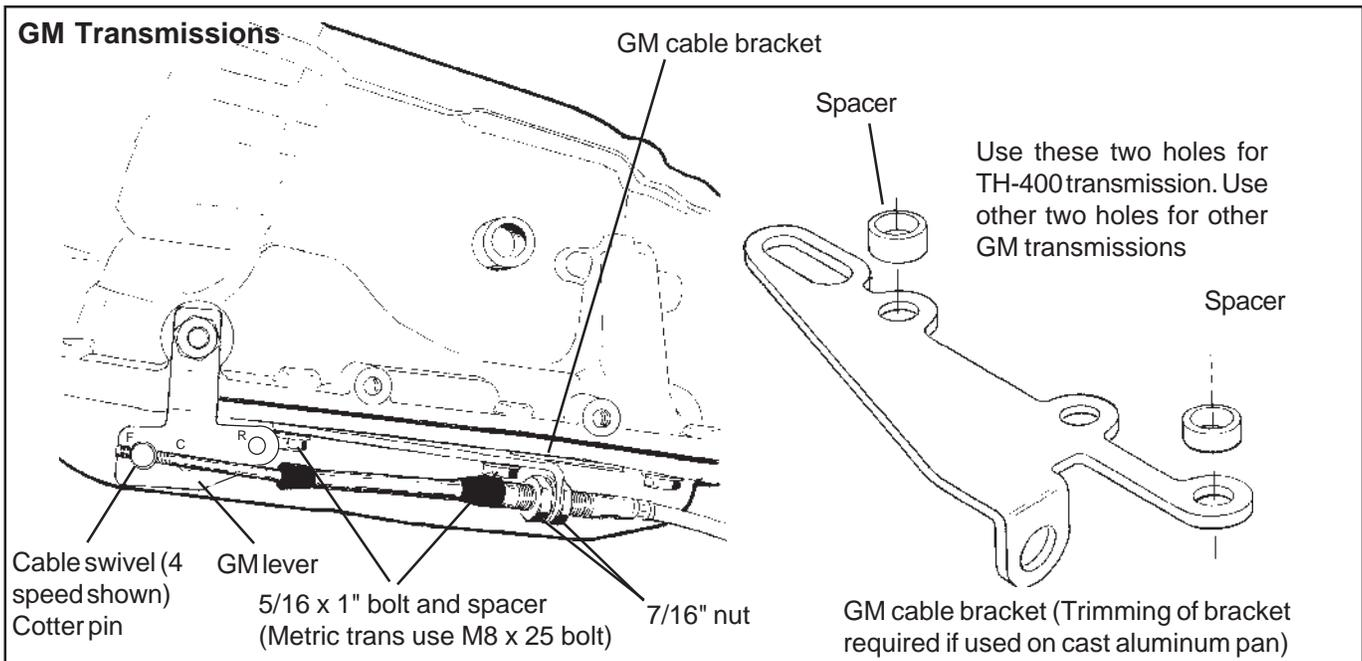

Figure 4
STEP 8. If you have not already done so, remove the stock selector lever nut and the selector lever from the transmission. Discard the stock lever and the stock shifter linkage. Install the **B&M** selector lever in position using the stock selector lever nut (See **Figure 4**). Torque nut to 23 lb. ft. The lever should move smoothly from front to rear with a positive click in each gear position.
STEP 9. Remove the two transmission oil pan bolts from the middle of the left side of the oil pan. Install the cable bracket in position (See **Figure 4**). The bracket must be installed with two spacers between the pan and the bracket. (If your transmission is equipped with a cast aluminum oil pan, these spacers should be omitted however the cable bracket may have to be modified). Install the two supplied 5/16-18 x 1.00" bolts and tighten to 12-13 lb. ft. Do not overtighten as this can damage the pan gasket.